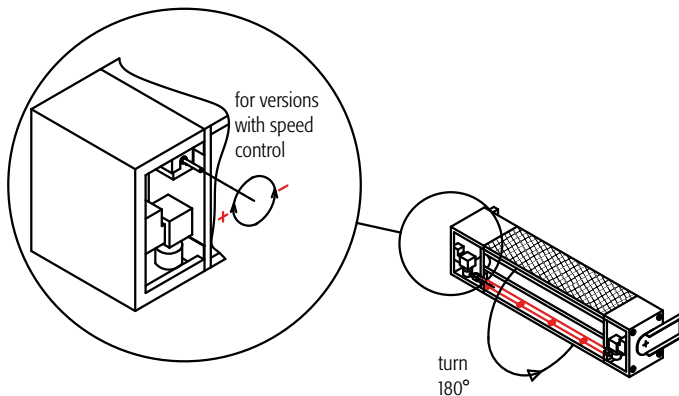

Fig. 22
9. turn the unit 180° and make the electrical connections according to the type of unit (Slave, Master) (Fig. 22);
15. select the angle of flow of the atomised water and secure it using the closest available hole with the M3 supplied (Fig. 22);